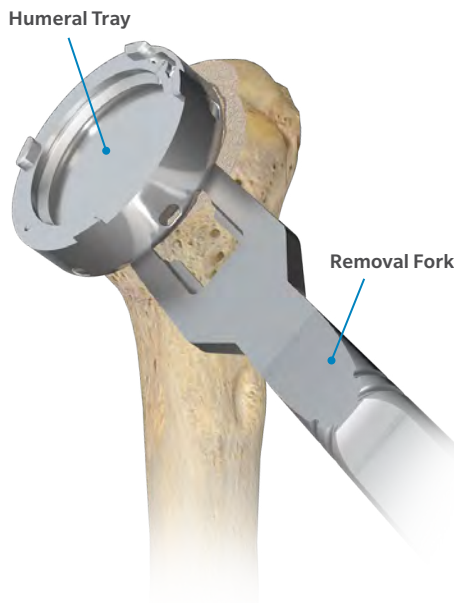

Figure 42
- As the Humeral Tray sits very near the resected surface of the humerus and the AC-Connector lies within the counter-bore geometry of the Humeral Tray, it is preferable to place the dedicated ASHCOM Shoulder Removal Fork arms between the Humeral Tray and AC-Connector collar, which will act as a wedge and disengage the taper (Figure 42).